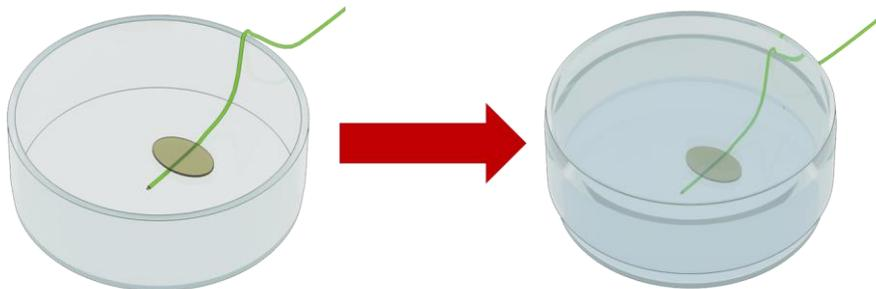

Figure 13. Petri Dish with T sensor placed centrally, filled with water and lid closed.
In order to proceed with the Chamber calibration you will first need to attach the tip of the T Sensor to the bottom of a petri dish or the cell culture holder which you use along with the Sample Holder Insert that you've purchased, making sure that it is placed as centrally as possible (see Figure 13)
**Calibration:** For performing the Calibration procedure instead, you can do so with the help of the provided T-Sensor. The process is similar to that of the Chamber calibration i.e., you will have to attach the tip of the T-Sensor to the bottom of the cell culture support (as illustrated previously in Figure 13).